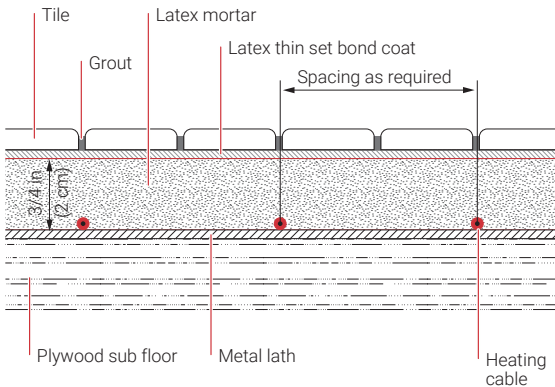
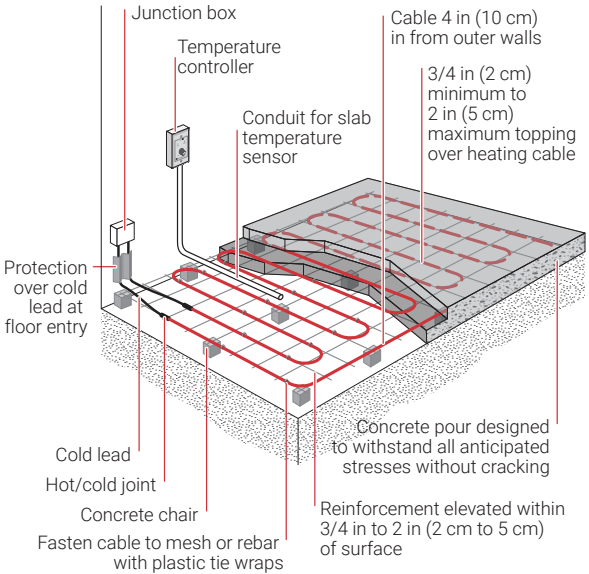

Figure 14: Typical installation on wooden subfloor
Figure 15: Typical single pour concrete floor installation
- 3. Single-pour:** If supporting cable on the reinforcement, ensure that the concrete thickness over the cable will not exceed 2 in (5 cm). Refer to Section 2.10 and Figure 15 for further details. If installing the heating on a wooden subfloor, cover the subfloor with metal lath. Ensure edges butt together, but do not overlap (Figure 14).
Two-pour: Install prepunched strapping at 30 in (76 cm) intervals on the base slab with additional runs, where required, to hold cable loops securely. Fasten the strapping to the concrete base using an appropriate fastening method (see Section 2.10). Ensure that the concrete thickness over the cable will not exceed 2 in (5 cm). Refer to Figure 15 for further details.